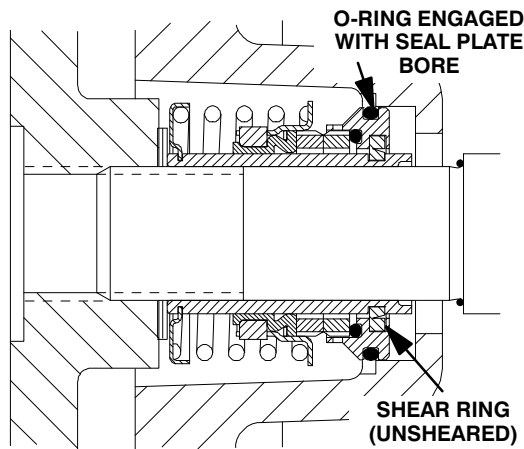

Figure 6. Seal Partially Installed
Clean and inspect the impeller as described in **Impeller Installation and Adjustment**. Install the full set of impeller shims (29) provided with the seal, and screw the impeller onto the shaft until it is fully seated against the shims (see Figure 6).